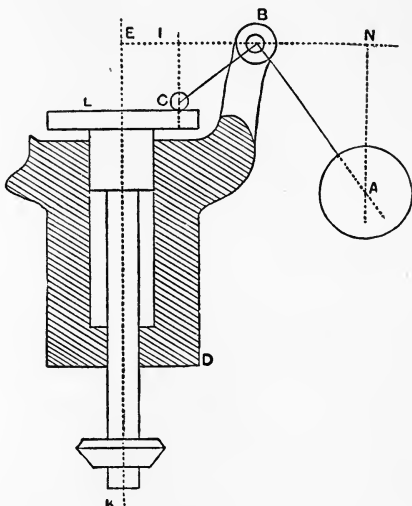

Fig. 2.
3. In the governor shewn in outline in figure 2 the sleeve BD is free to slide up and down on the spindle KL and rotates with it. The bell-crank lever CBA carries the ball at A and a roller at C . The control is exercised by the weights of two balls, each W_1 lbs., the weight of the sleeve, W_2 lbs., and the thrust S lbs., of a spring in compression, placed in the annular